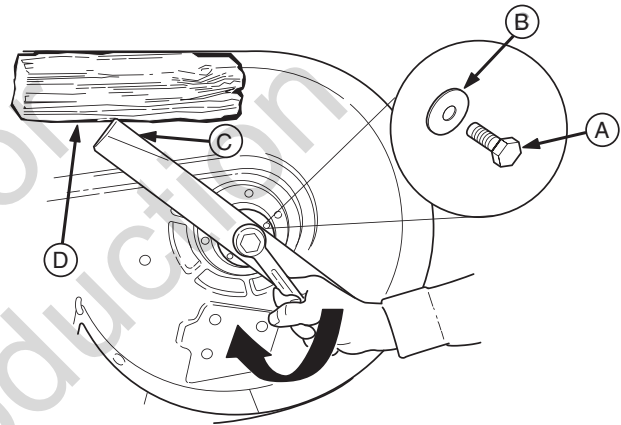

Figure 23. Blade Installation
3. Remove the capscrew (A, Figure 23), spring washer (B), and blade.
7. Reinstall the blade with the lift wings (C, Figure 23) pointing up toward the mower deck as shown.
8. Reinstall the spring washer (B) and capscrew (A). Use a wooden block (B) to prevent blade rotation while tightening the capscrew (A) to 45-55 ft-lbs (61-75 Nm). Turn capscrew clockwise to tighten.